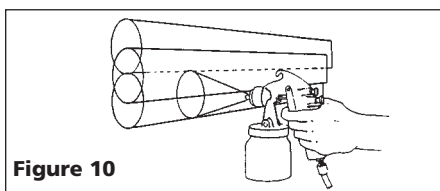

Figure 10
- Overlap strokes just enough to obtain an even coat (See Figure 10).